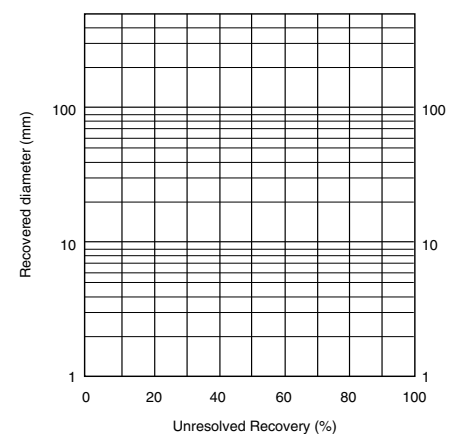

Figure 1.
1. Use the chart in Figure 1 to determine the unresolved recovery of the tubing jacket
1. Locate the recovered and expanded diameters of the chosen tubing size on the chart in Figure 1.
3. Find the wire bundle diameter on the Expanded Diameter scale of the chart in Figure 1.